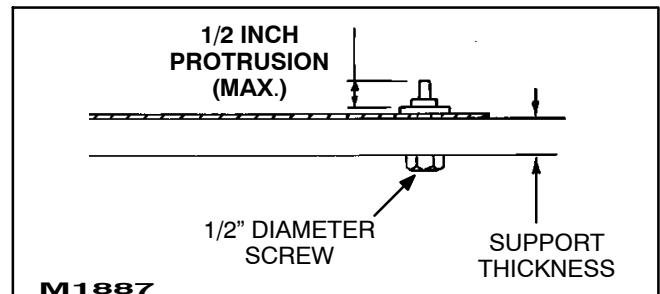

FIGURE 3-6. COMPARTMENT MOUNTING
- Mount the generator set in the compartment with four 1/2" diameter bolts and nuts. Screw length must not protrude more than 1/2-inch (13 mm) through the generator set base (Figure 3-6).